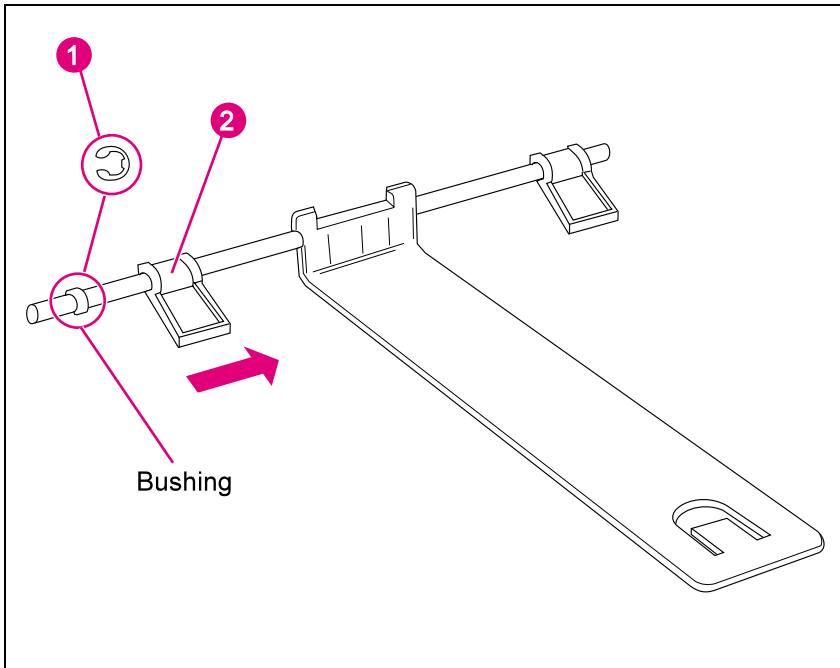

Figure 6-149 Latching Mechanism
- 2 Remove the E-clip in figure 6-149 (callout 1).